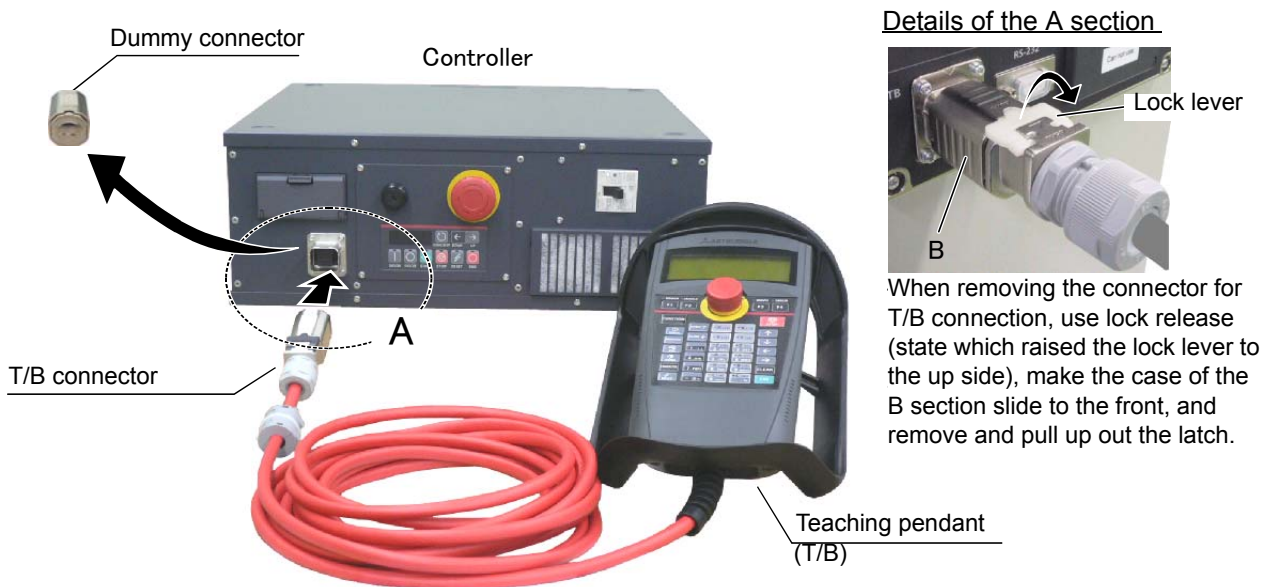

Fig.2-12 : Installing and removing the T/B (CR750 controller)
- 2) Connects T/B connector to the robot controller. Use as the upper surface the lock lever shown in Fig. 2-12, and push in until there is sound.